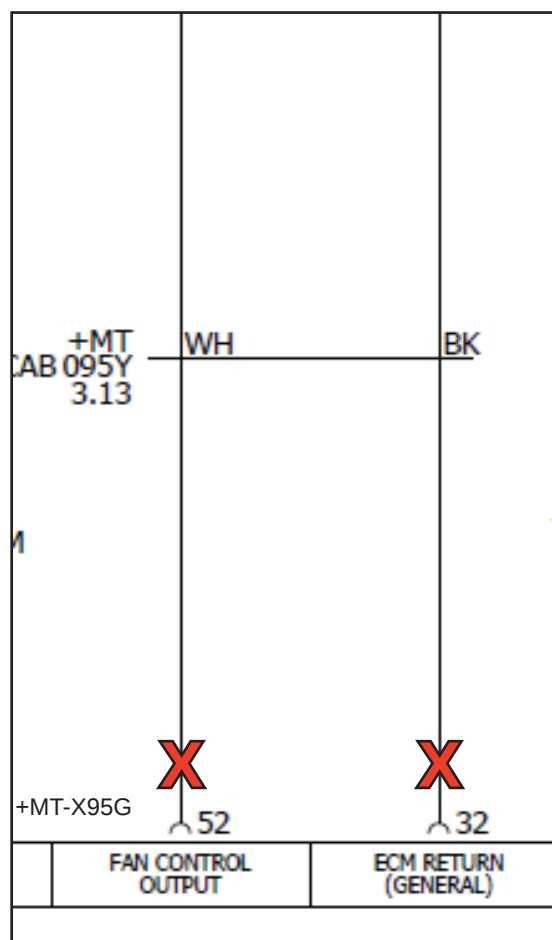

Figure 6 - Wires to be Removed and Insulated on +MT-X95G Connector
- 1.10. Remove the CAB095Y cable's WH and BK wires from the +MT-X95G connector (positions #52 and #32) using the 04112402005 extractor tool or equivalent. See Figures 6 & 10.